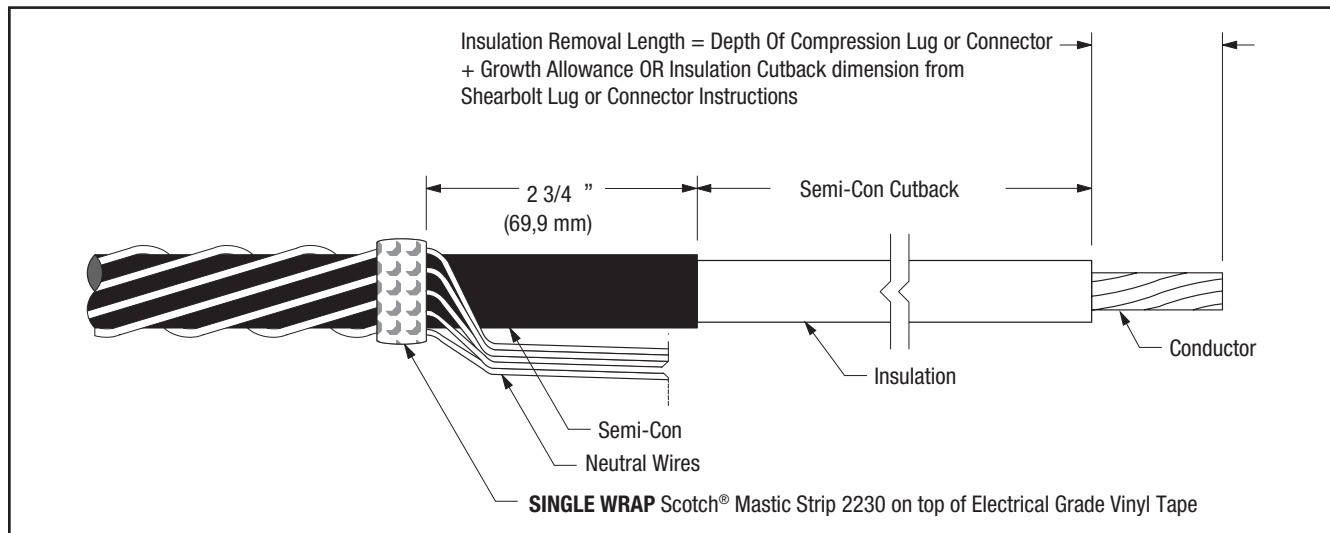

Figure 7
- 6.3 Prepare cable using dimensions shown in Figure 7. **BE SURE TO ALLOW FOR DEPTH OF TERMINAL LUG OR CONNECTOR.** If using 3M Shearbolt Lugs QL2 Series: Two Hole, 3M Shearbolt Stem Connector QP 7-4/0, or 3M Mechanical Shearbolt Connector QCI Series, proceed to Step 6.4. If using a Crimp Type (Compression) lug, measure the depth of the barrel. If using a Crimp Type (Compression) connector, measure to the barrel center stop/midpoint, and see the NOTE below in order to calculate the Insulation Removal Length. Table 9 can be used to assist in calculating the total Jacket Removal Length when using a compression lug or connector.
- 6.5 Secure neutral wires to cable with several highly stretched layers of electrical grade vinyl tape around the cable and neutral wires 2 3/4" (69,9 mm) from cut edge of cable semi-con (Figure 7).
- 6.6 Select a Scotch® Mastic Strip 2230 from kit and remove white release liners. Using light tension, apply a **SINGLE WRAP** of mastic around the cable and neutral wires 2 3/4" (69,9 mm) from cut edge of cable semi-con, directly on top of vinyl tape (Figure 7). Cut off excess.